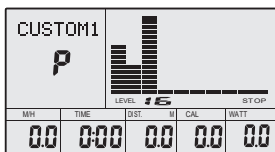

fig 33
- F. The first resistance level will flash, and then press(or rotate) UP, DOWN button to set the desired load resistance. Press ENTER to confirm. Then repeat the operation to set the resistance from 2 to 10. (See fig 33)